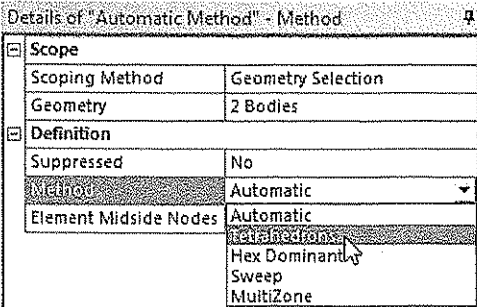

Figure 8-26 Selecting the **Tetrahedrons** option from the **Method** drop-down list
22. Expand the **Definition** node in the **Details of “Automatic Mesh”** window and then select the **Tetrahedrons** option from the **Method** drop-down list, as shown in Figure 8-26; the **Algorithm** drop-down list is displayed with the **Patch Conforming** option selected by default.